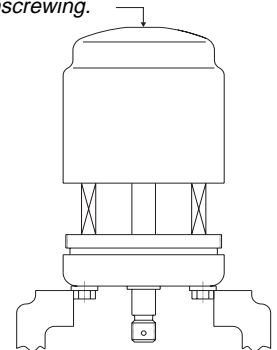

Figure 2
- 1 Insert four bolts into bonnet and clamp into vise as illustrated in Figure 2
<p>CAUTION</p> <p>To prevent injury, apply constant hand pressure and unscrew completely. Spring force will push the cylinder up when threads disengage. See Figure 2.</p>